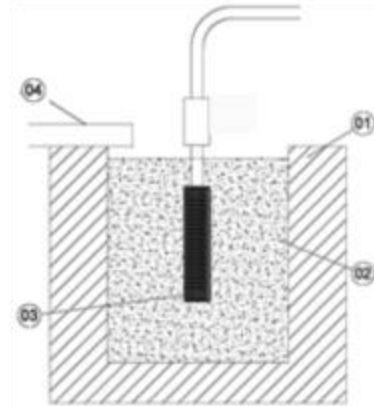

Figure 1
- It is necessary to install the filter (ZM Pumps) to prevent the suction of solid materials. Lodge it in a deposit or plastic drum to catch water with capacity of at least 200 litres as shown in Figure 1.